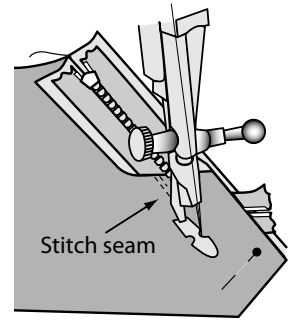

Figure 19
9. Close the zipper. Pin seam allowances below zipper together, making sure sides are lined up exactly. Stitch the seam below the zipper with a conventional zipper foot starting 1 to 2 inches above the zipper stop. (Figure 19) Stitching will be approximately $\frac{1}{16}$ inch from the zipper stitching. Stitch for several inches.